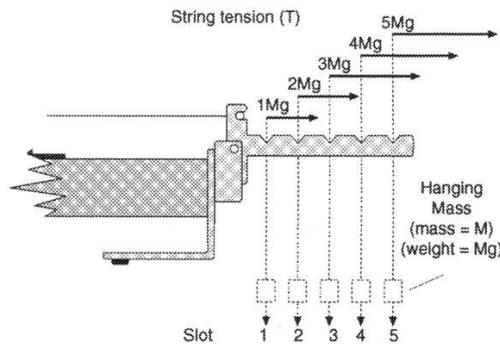

Figure 11.3
- 1.) Start with the bridges 60 cm apart. Use any of the included strings and hang a mass of approximately 1 kg (being sure to include the mass of the hanger itself) from the first slot of the tensioning lever (see Figure 11.3). Adjust the string adjustment knob so that the tensioning lever is horizontal. Position the driver coil 5 cm from one of the bridges and position the detector coil near the center of the wire. Record the length, tension (N) and linear density of the string in Table 11.2.
- 1.) Replace the wire on the Sonometer with a color coded unknown wire. Then with the set up the same as in the previous section measure the *fundamental harmonic*, f_0 , using 5 different tensions. Vary the tension by keeping the mass the same, but changing the location of the mass on the tensioning lever (see Figure 11.3). Change the string adjustment knob each time you move the mass so that the tensioning lever is always horizontal.